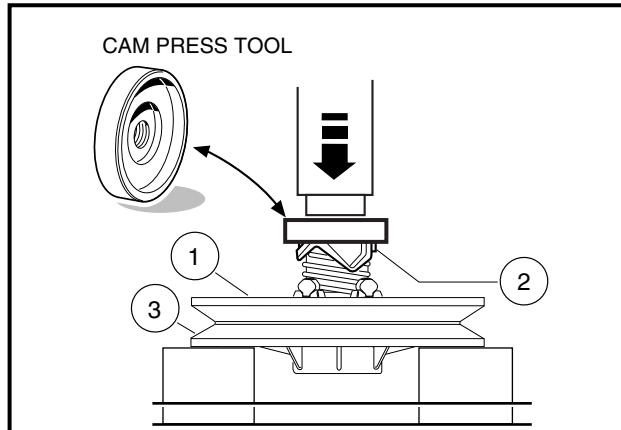

Figure 17-19 Cam Press Tool
- 5.1.1. Place the clutch assembly in a press and position the cam press tool (CCI P/N 101809101) on the cam as shown (**Figure 17-19, Page 17-16**).
- 5.1.2. Hold the fixed face assembly (3) and rotate the moveable face assembly (1) one-third turn clockwise, then press the cam (2) onto the fixed face assembly (**Figure 17-19, Page 17-16**).
- 5.2.4. Hold the clutch assembly and cam installation tool together and place the fixed face down on spaced blocks (**Figure 17-19, Page 17-16**).